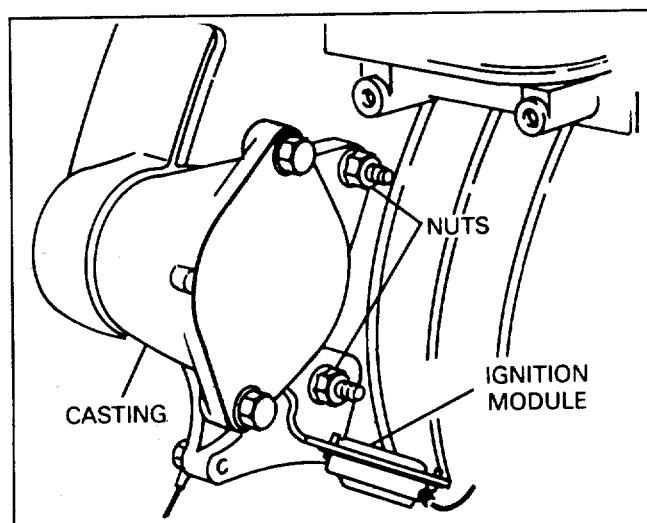

Figure 1
2. Some models have an additional casting installed in the starter motor location. This must be removed before the starter can be installed (Fig. 1). Remove (2) M8 flange nuts and ignition module bracket. Remove and discard casting. Set flange nuts aside for later use.